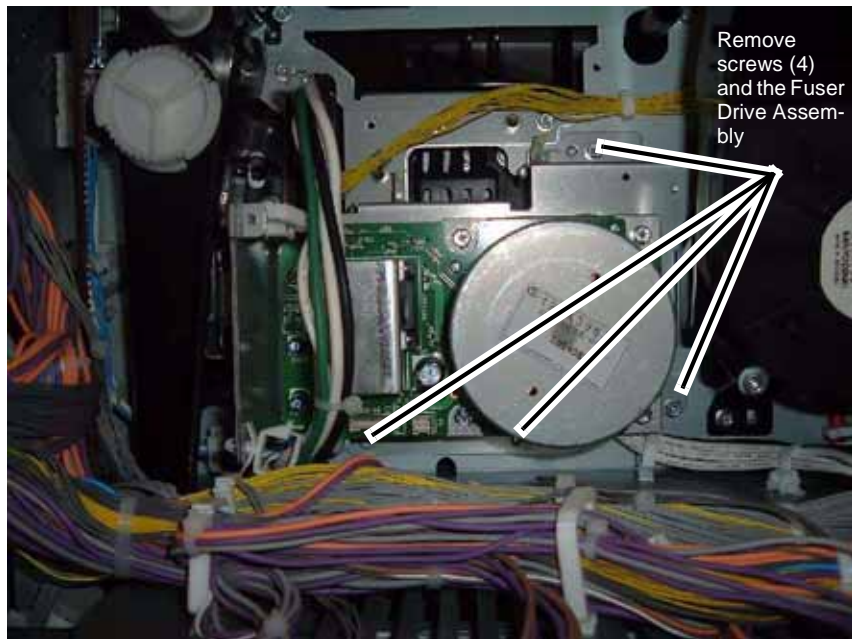

Figure 5 Removing the Fuser Drive Assembly
6. Remove the Fuser Drive Assembly (Figure 5).